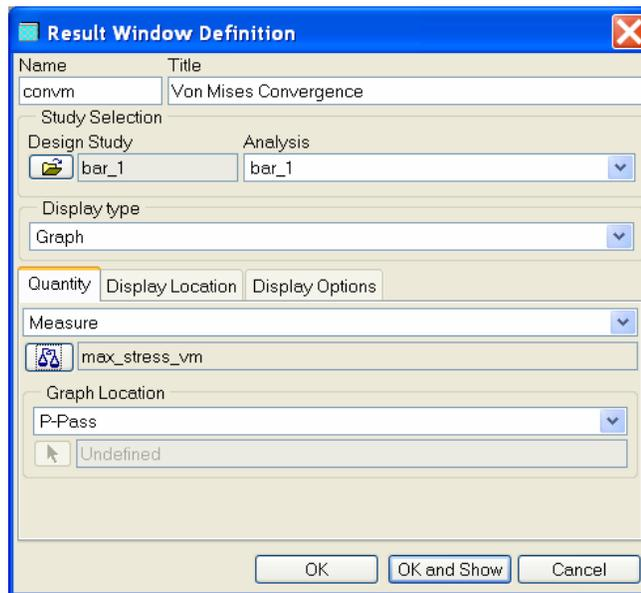
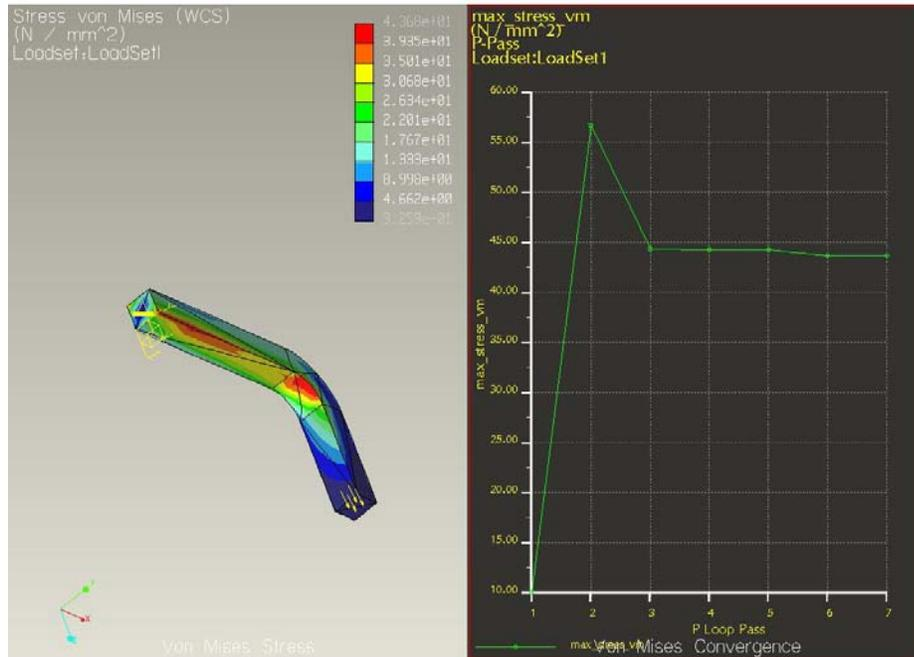

Figure 24
Figure 25
- Create the Multi-Pass Adaptive convergence behavior graph as shown in Figure 24. The Figure 25 display two results windows (von Mises stress and stress convergence) side by side